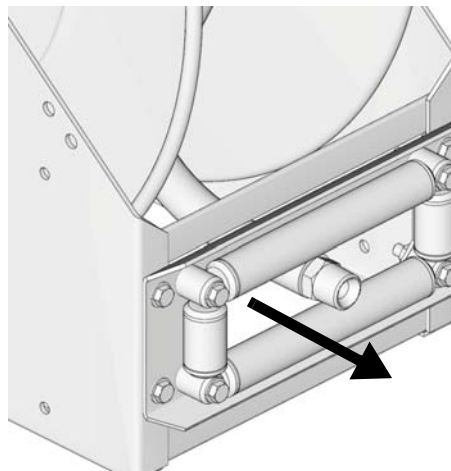

FIG. 72
1. Route end of the hose through the hose rollers (FIG. 72).